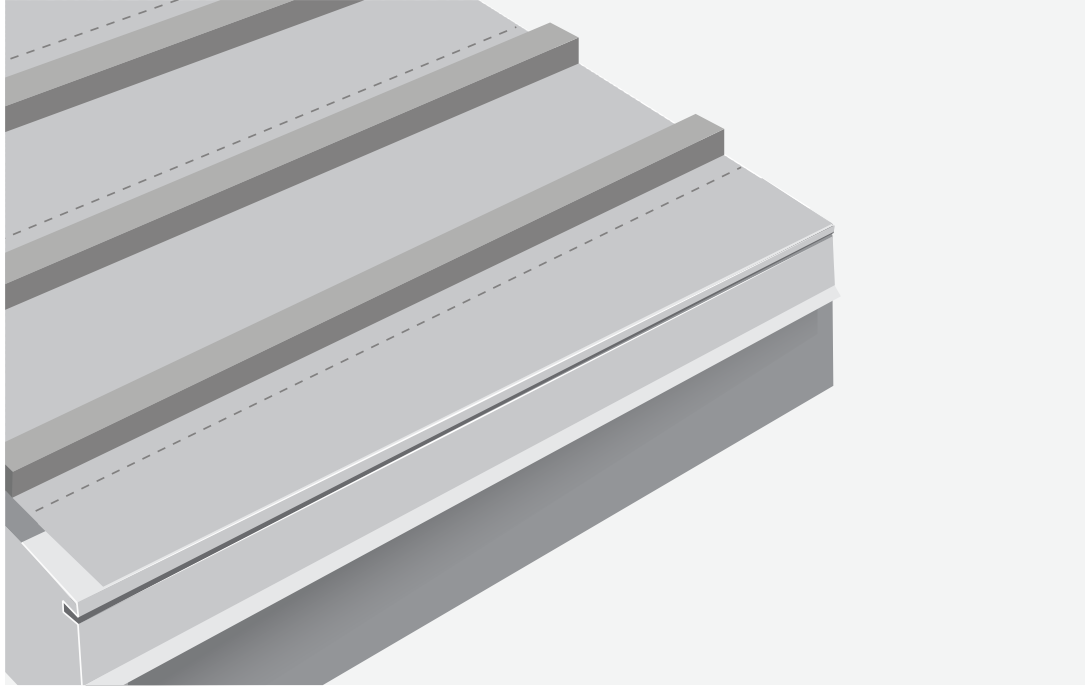

FIG. 01.A
1. Position 913 NZ CF Starter with a 50mm overhang at the fascia (*Fig. 01.B*).